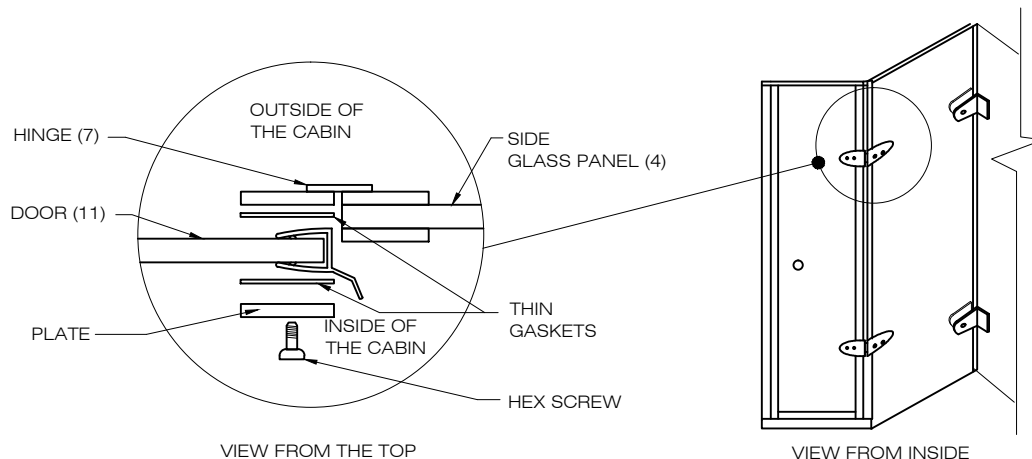

FIG.8
4. Install the hinges as illustrated. [SEE FIG.8] Use the hex key supplied.